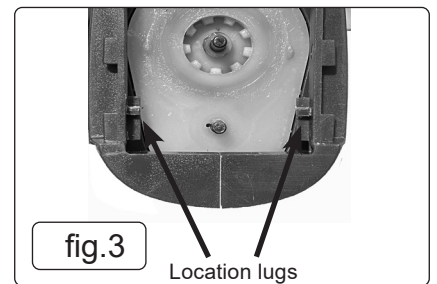

fig.3
4.2.3. **Installing the shears:** With the shear blade drive mechanism facing downwards into the body, hold the shears at a slight angle and slide the mechanism into the body, locating the rectangular cut-outs in the mechanism into the corresponding lugs in the body (fig.3). Manipulate the mechanism such that the two holes in it line up with the pins in the body.